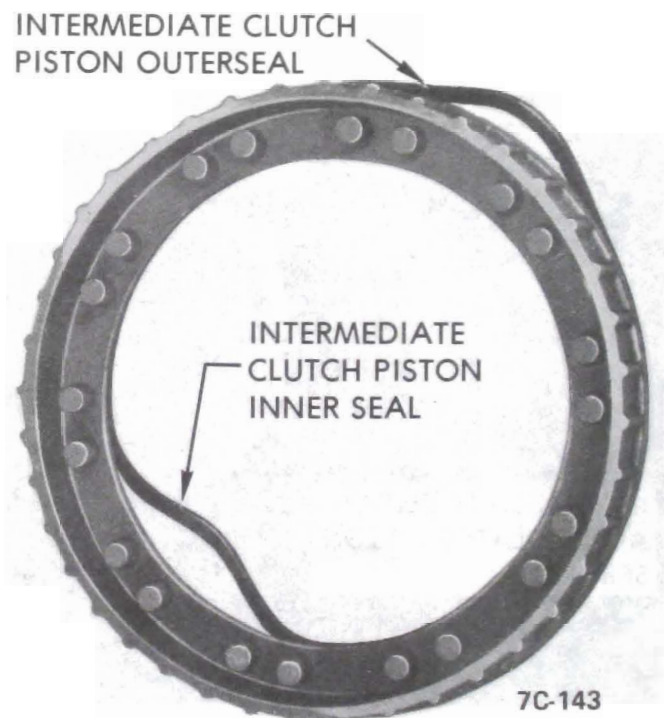

Figure 7C-145
8. Remove pump outside diameter to case square cut "O" ring seal and discard. See Figure 7C-151.